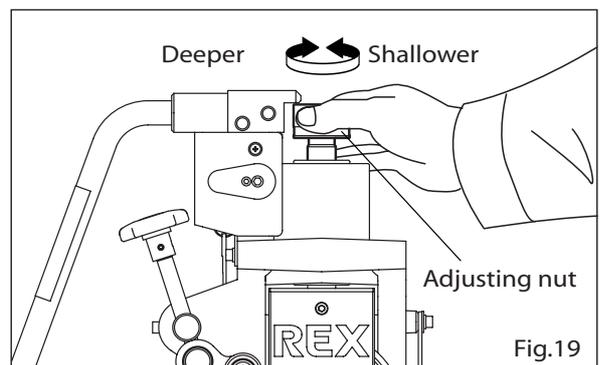

Fig.19
- \* One sub-division of the larger divisions on the adjusting nut is equivalent to approximately 0.3 mm. (Fig. 19)